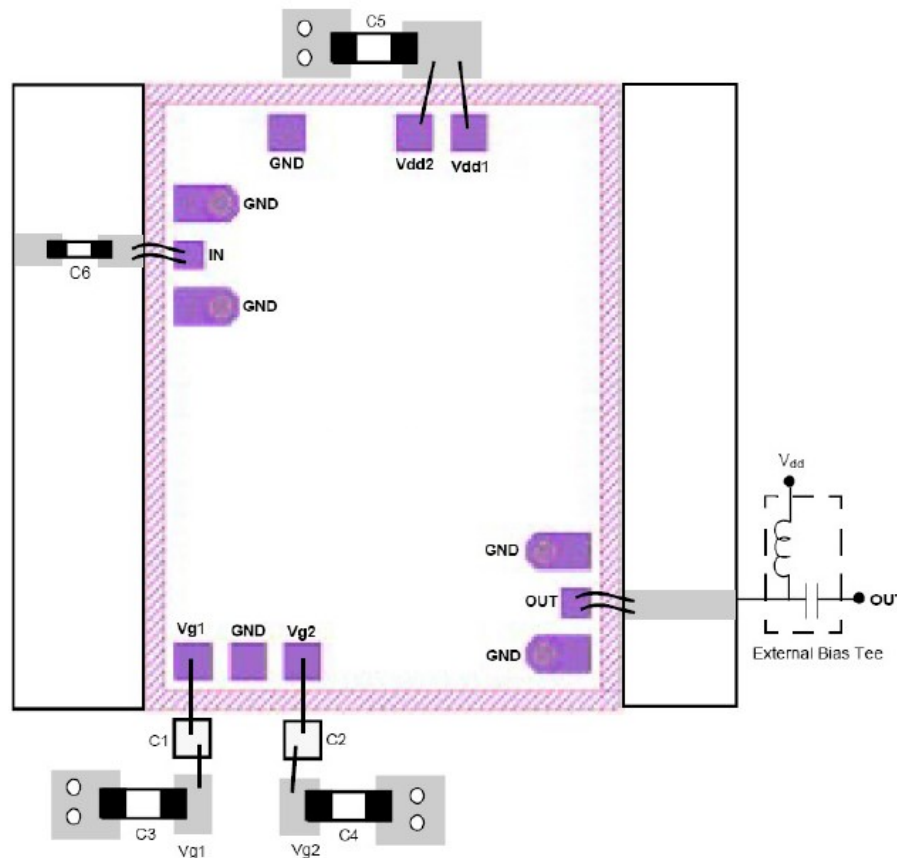
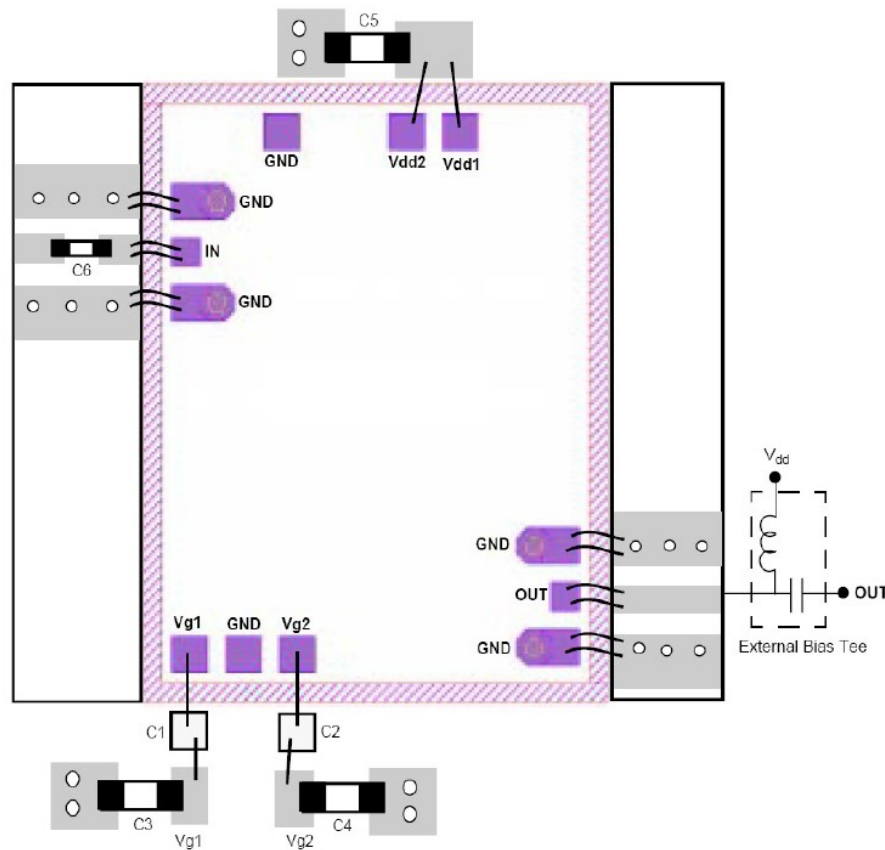

Figure 1: Module Layout: Microstrip Assembly
Figure 2: Module Layout: Coplanar Assembly
- Noise Figure: 2 dB @ 15 GHz
- Low frequency gain ripple assumes the use of drain decoupling close to the chip, as proposed on the figure 1 and 2.
Two module layouts are proposed in figure 1 and 2. In figure 1, RF input and output accesses are built in microstrip transmission line. While in figure 2, coplanar transmission line are used and will give similar performance. All path lengths and physical sizes of the components should be minimized.
In figure 1 and figure 2, C1, C2 (47 pF) and C3, C4 (100 nF) capacitors are used to improve the power supply rejection, while C5 (100 nF) is used for low frequency gain extension. C6 is a link capacitor used to isolate the amplifier from external circuitry. C6 (100 nF) will give a low frequency cut-off down to a few kHz.